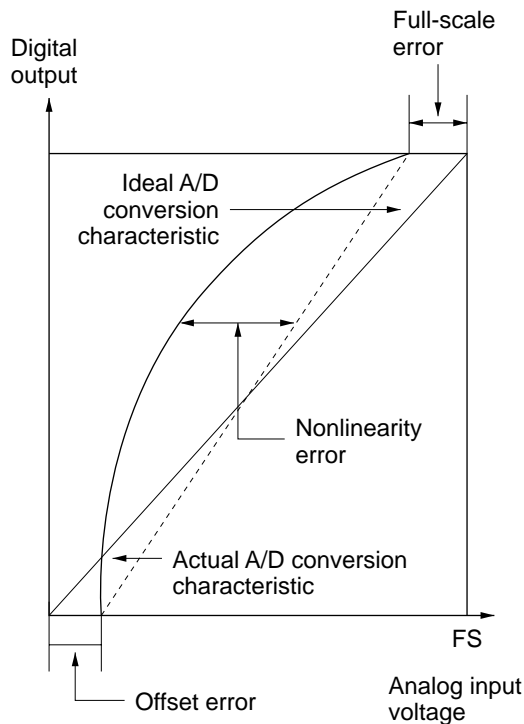

Figure 14.10 A/D Converter Accuracy Definitions (2)
- Offset error:Deviation from ideal A/D conversion characteristic of analog input voltage required to raise digital output from minimum voltage value 0000000000 to 0000000001 (figure 14.10)
- Full-scale error:Deviation from ideal A/D conversion characteristic of analog input voltage required to raise digital output from 1111111110 to 1111111111 (figure 14.10)